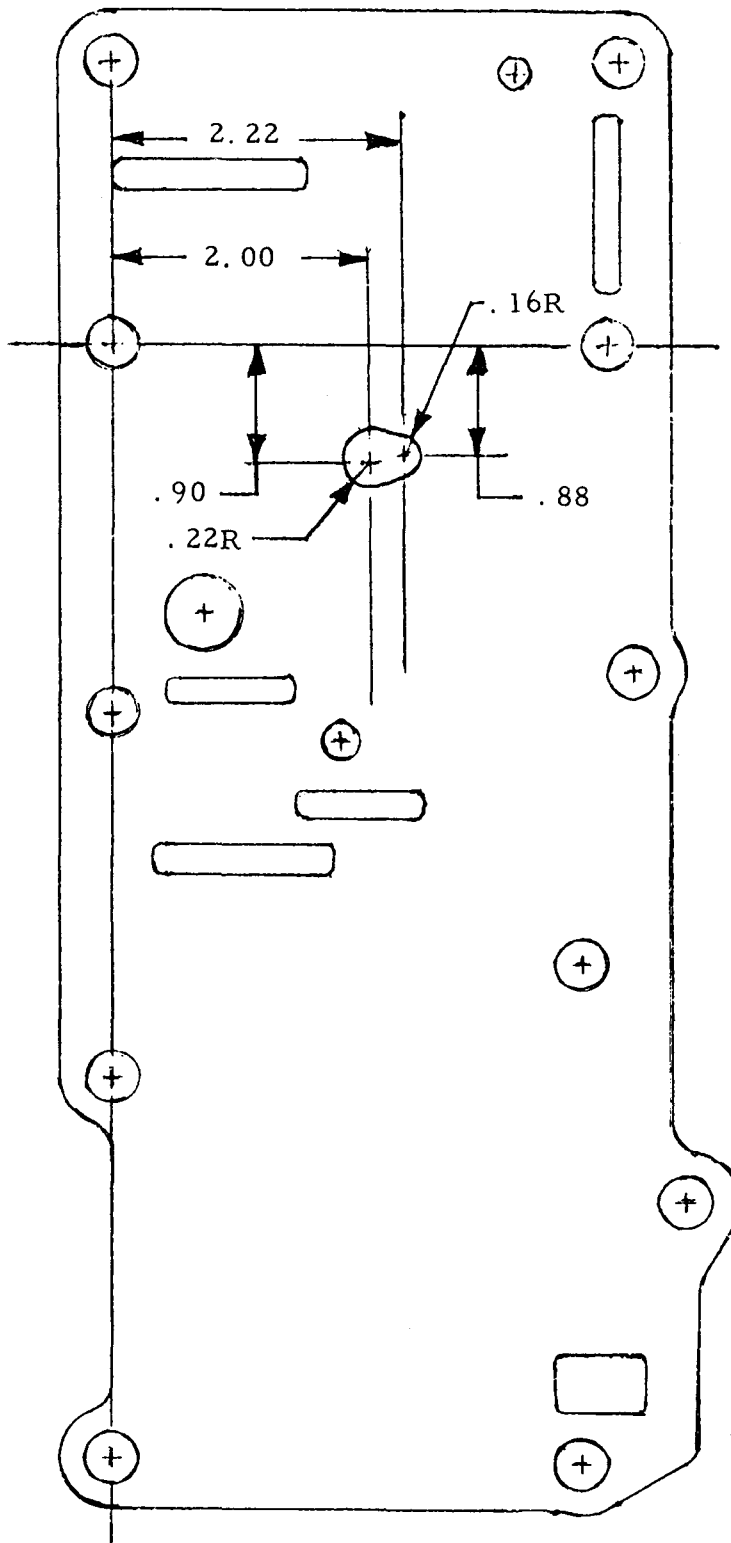

Figure 3. 6835416—Gasket, Transfer Plate
4. Rework a 1st range body transfer plate gasket P/N 6835416 by cutting out the irregular opening indicated in Figure 3. This is to match the opening made in transfer plate in Step 3 above, but should be slightly larger as dimensionally indicated. To obtain a quick pattern and location, the gasket could be placed on top of the reworked transfer plate and tapped lightly with a ball-peen type hammer or roller bearing.